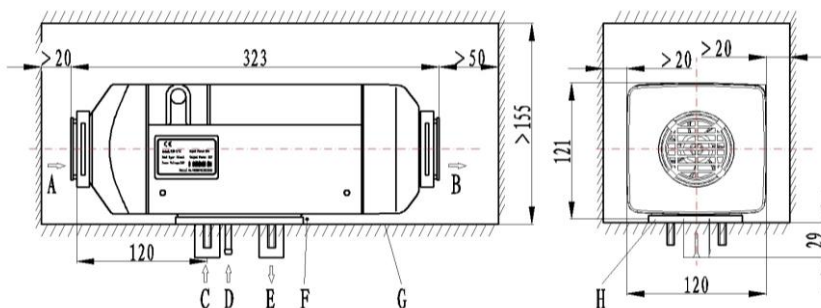

Fig. 8
4.2.2 For convenience of heating air flow and installation, maintenance of the main heater, enough space must be provided for installation. Please refer to the scope of double dot line for the space for installation, as shown in Fig. 8.
Please make sure that there is not any interference objects in the gap between the bottom surface of the main heater and the installation surface of the vehicle (Fig. 8-F).
4.2.3 Good sealing is necessary between the main heater and the installation surface on the vehicle. A special gasket (as shown in Fig. 8) supplied by the manufacturer must inserted in between during installation. The installation surface must be smooth and steady enough. Its parts at the installation bases of the main heater shall have unevenness of less than 1mm. After drilling installation holes, evenness must be improved according to this requirement. At installation, please rotate the four M6 nuts, which provided by the manufacturer should be tightened. The torque for tightening shall be $6\text{Nm}+1\text{Nm}$.